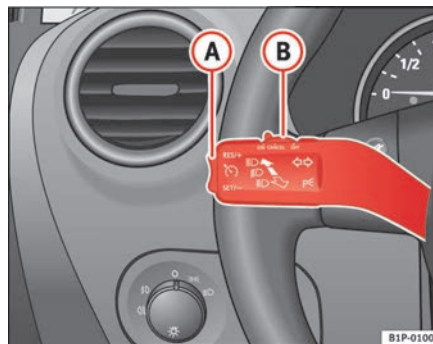

Fig. 126 Turn signal and main beam headlight lever switch and rocker switch for the cruise control
- Push the switch  fig. 126 **(B)** to the left to **ON**.